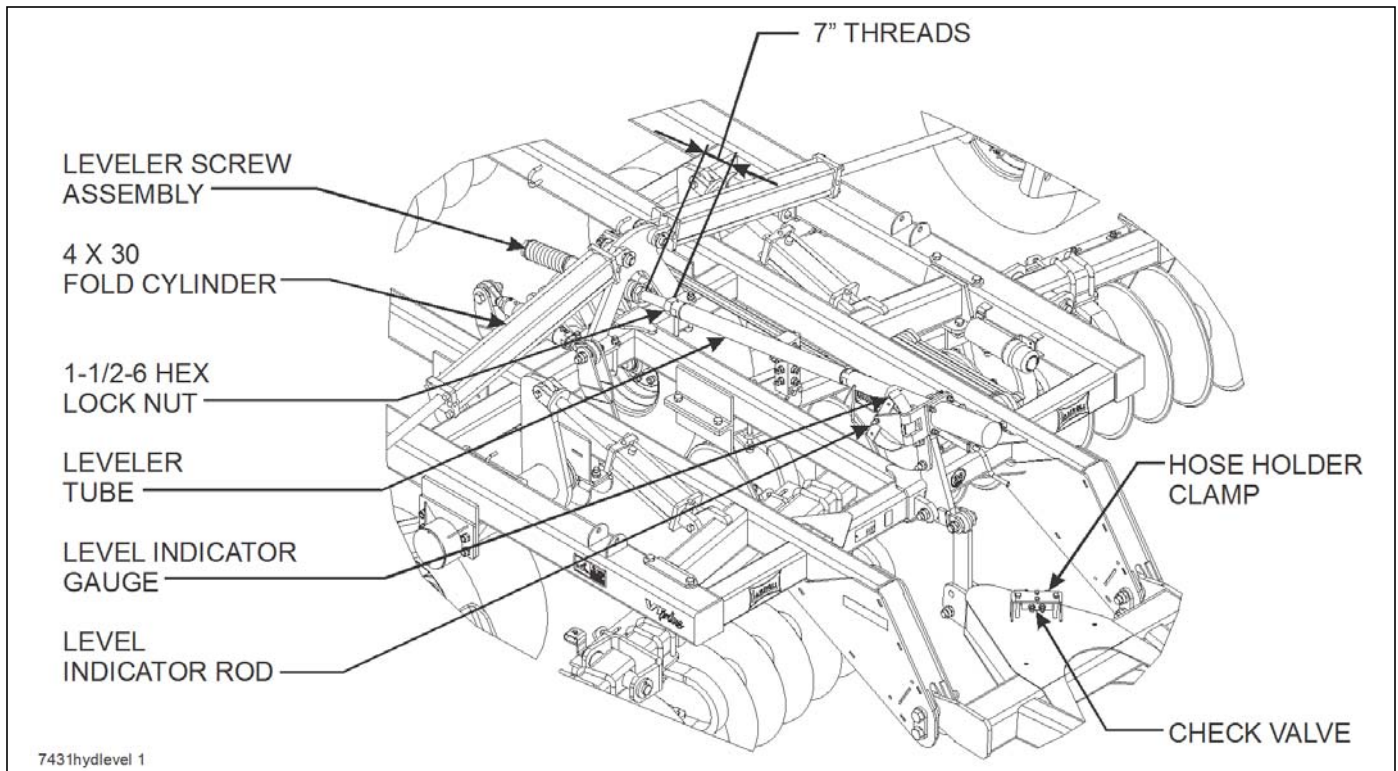

Figure 4-14: Hydraulic Leveler Adjustment
2. Remove the level indicator rod from the leveler tube (**See Figure 4-14.**)